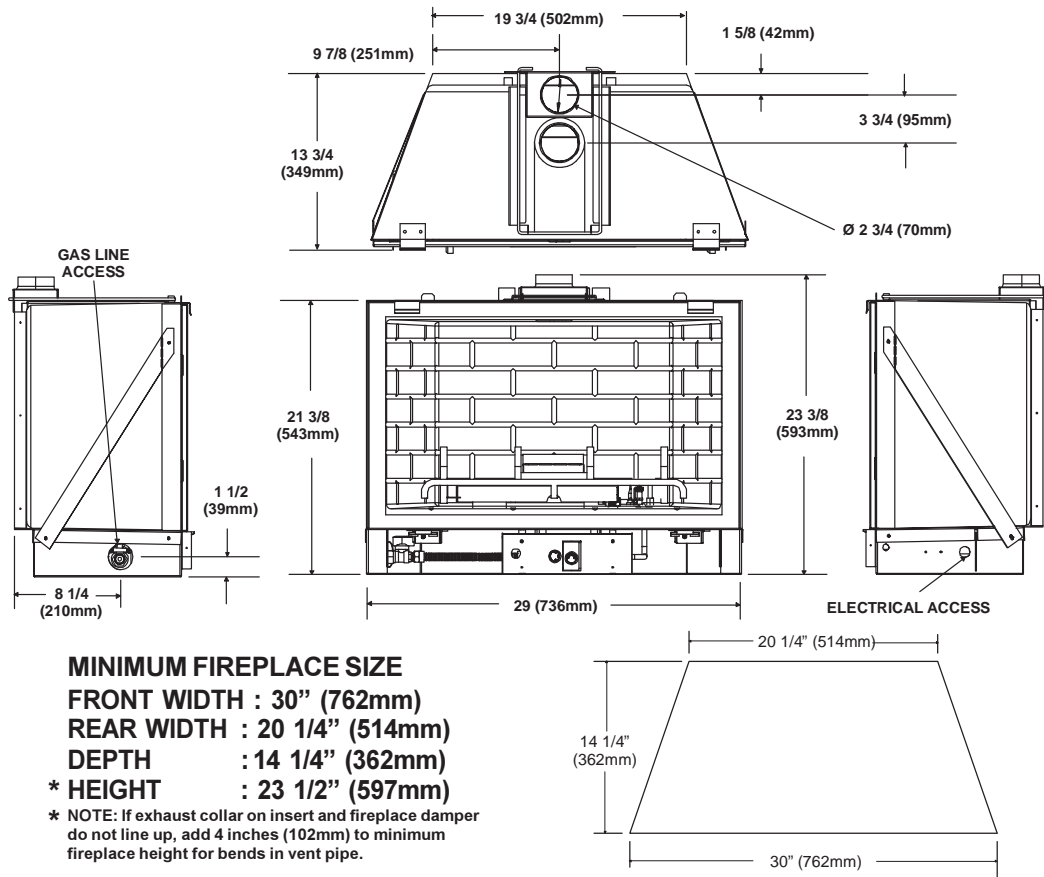

Figure 1. Diagram of the CFX-IN
2. Minimum fireplace opening requirements are shown in Figures 1 and 2 of this installation manual. The firebrick (refractory) can be removed from a factory built fireplace in order to gain minimum gas insert opening requirements.